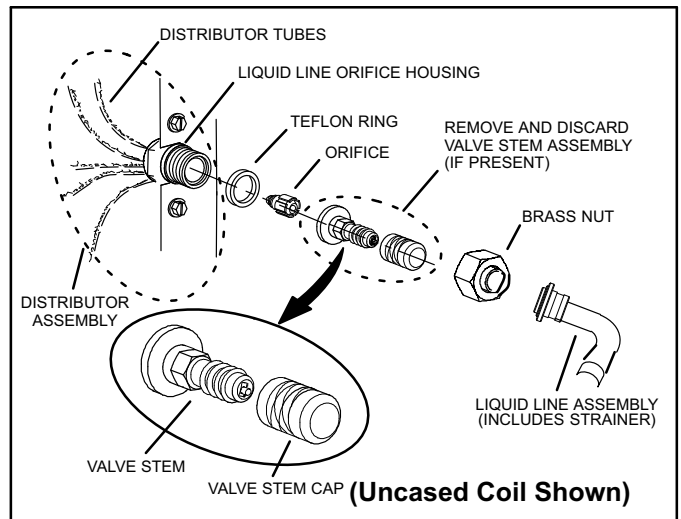

Figure 2. Typical RFC Removal
4. Remove and discard orifice, valve stem assembly if present, and Teflon® ring as illustrated in Figure 2.